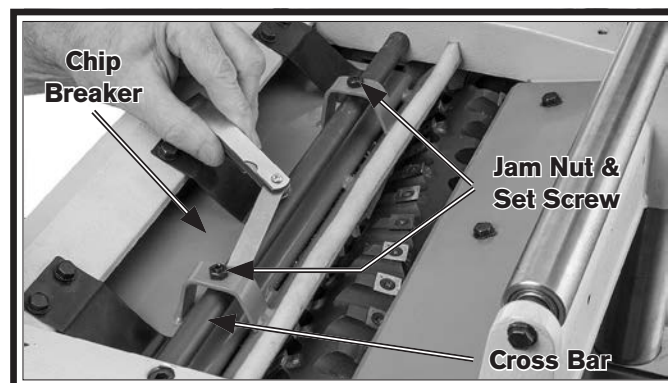

Figure 57. Feeler gauge locations for adjusting chip breaker height when using wood blocks.
10. Loosen jam nuts and set screws on each side of chip breaker (see **Figure 57**).
11. Using a feeler gauge, adjust set screw so chip breaker is 0.040" from cross bar (see **Figure 57**), then tighten jam nut. Repeat on other side of chip breaker.